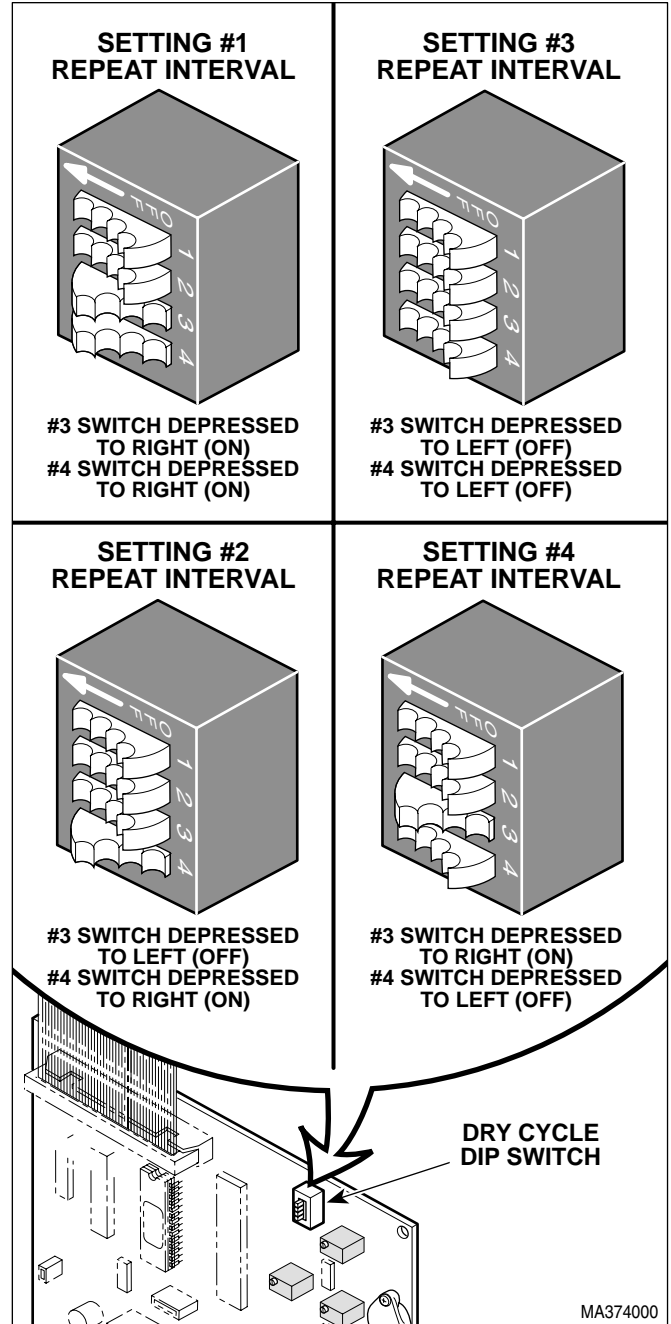

Figure 4-32. Dry Cycle Dip Switches Adjustment
- (3) If unit has has been overheating during the drying cycle and activating the overheat thermostat, determine the current repeat interval dip switch settings for the unit per Figure 4-32 and then change the dip switch settings to the next shortest repeat interval.
- (4) Run a cycle. Repeat step 3 if overheat thermostat activates again.
- (5) Install right hand side panel (Refer to para 4.3).